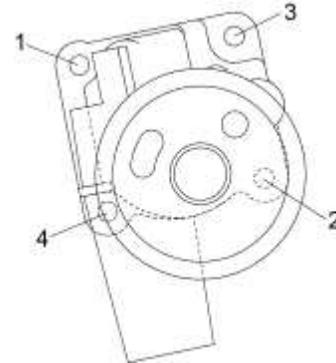

Figure 9
- B. Initially torque the nuts in the sequence shown in Figure 9 to 25 in.-lb. (2.8 Nm).
- C. Complete the final torque of the nuts to 96 in.-lb. (10.9 Nm), in the sequence shown in Figure 9.